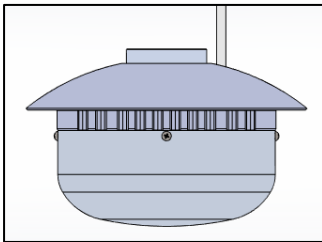

FIG.3 - REFLECTOR
1. REFLECTOR ASSEMBLY with CORD attached. (shown in FIG. 3)